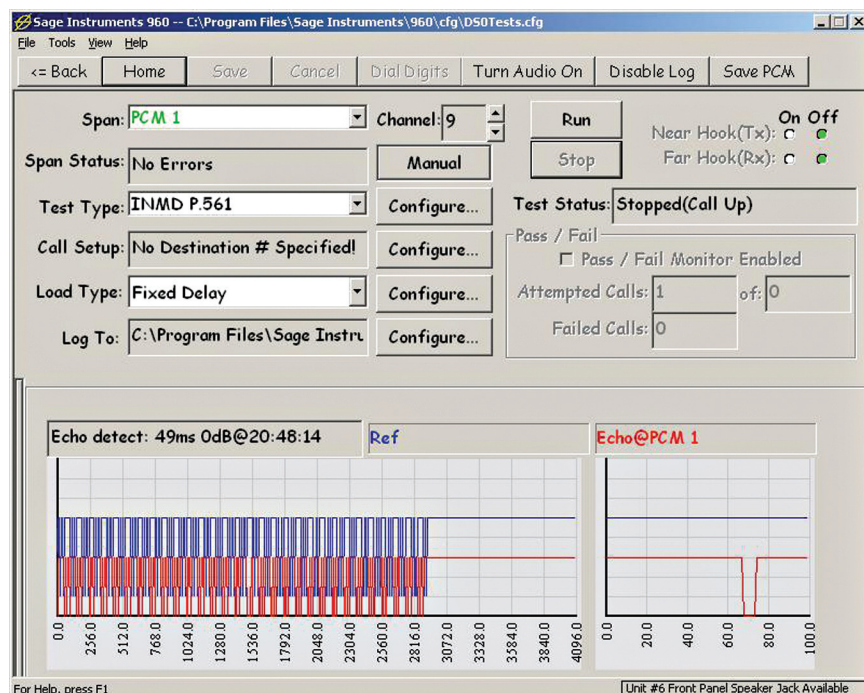

Figure 1.10.1
Figure 1.10.1 shows the main test screen with the "INMD" test selected and saved. When clicked the three (3) "Configure" buttons down the center of the screen display the test set-up windows at right.
In Figure 1.10.1, there is an echo detected of 49ms delay and 0 dB level at 20:48:14. In the left plot, the blue line represents the reference signal on PCM2 while the red line represents the measured echo signal on PCM1. The signal is plotted for the last 4096 ms. The right plot shows the last 100 ms of signal activity for both monitored lines.